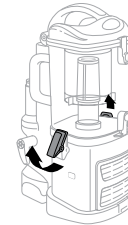

Fig. 18
- 1 Undo the latches on the sides of the dust cup by lifting them up and outwards to remove the dust cup from the motor base. (Fig. 18)